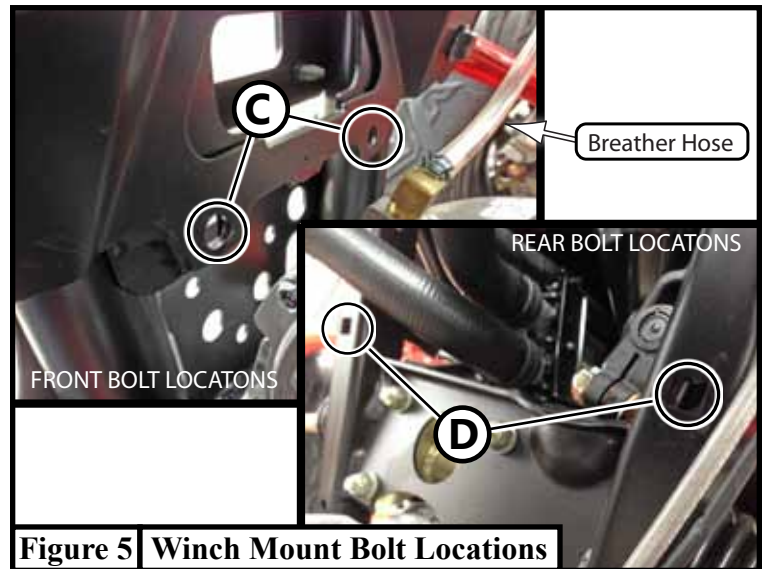

Figure 5 Winch Mount Bolt Locations
5. Using the 2 Flanged Bolts (D), set aside from **Step 2**, secure the Winch Mount (1) to the machine between the upper A-Arms as shown in **Figure 5 (Next Page)**. Ensure Mount (1) is level and tighten Bolts (D) evenly.
5. Place winch mount (1) into position from the drivers side of the machine in order to avoid the breather hose for the front differential. Align the winch mount (1) with the bolt holes (C&D) as shown in **Figure 5**.